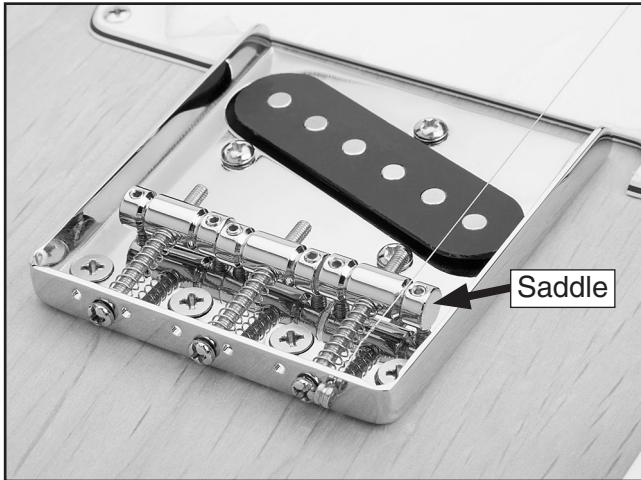

Figure 32. 1st string installed.
3. Guide the string across the saddle (**Figure 32**), over the nut, and through the hole in the corresponding tuning post.
1. Slide the 1st string through the corresponding hole in the bridge (**Figure 32**).